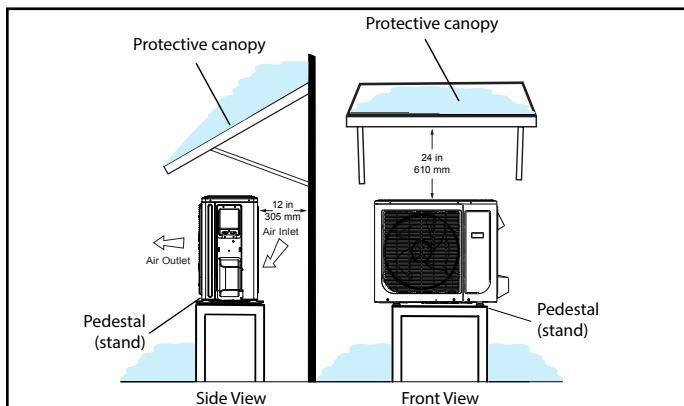
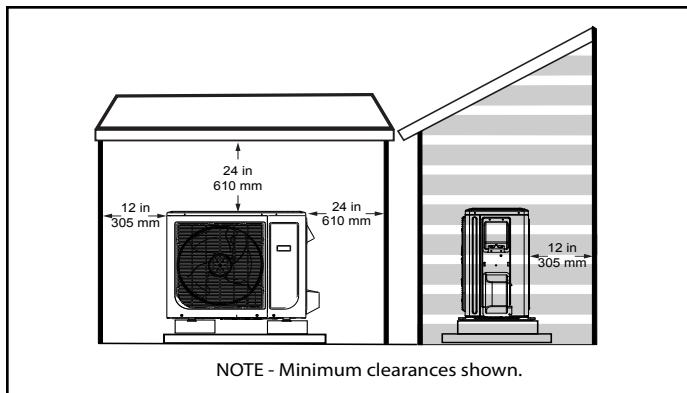

Figure 22. Outdoor Unit on Pedestal and Protective Canopy
Figure 23. Dog House-Style Shelter
- If the outdoor unit is subjected to prolonged exposure to direct sunlight with temperatures over 100°F (38°C) a canopy is recommended as illustrated in Figure 22 or Figure 23.